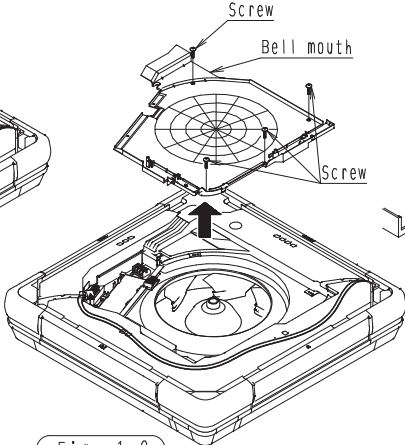

Fig. 1-2
(3)Remove the bell mouth from the indoor unit (4 screws), Fig. 1-2